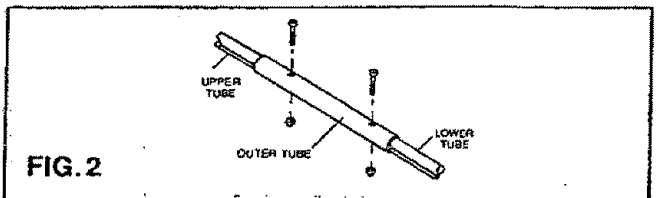

FIG. 2
5. Insert screws into the holes and attach locknuts (Fig. 2). Actuate lever to ensure free movement of cable before tightening screws (see instructions under "ADJUSTABLE HANDLE" — PAGE 4).